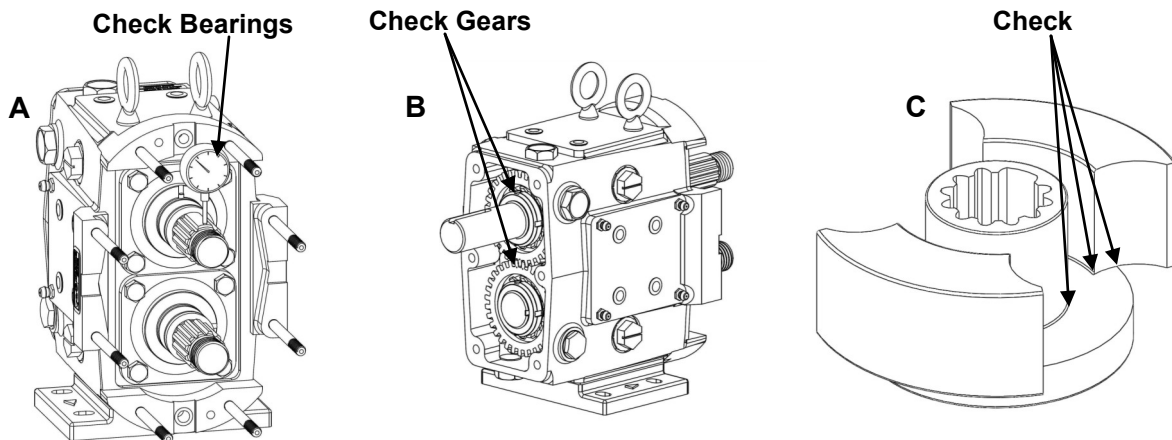

Figure 22: Annual Maintenance Checks
- Check the gear case bearings by measuring the shaft's radial movement with a dial indicator (Figure 22, A). If the movement is greater than or equal to the rotor to body clearance found on page 29 (Table 8) the bearings should be replaced.
- Remove the gear casing cover (See page 21 for disassembly information) and inspect the gears for wear and damage (Figure 22, B). Also check for backlash and looseness.
- Inspect the rotors for signs of wear and stress cracks around the areas defined in Figure 22, C. Replace, if necessary.